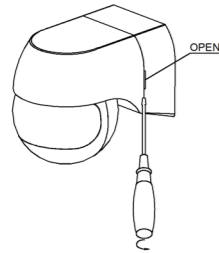

Figure 1
- Loosen the screw in the back and open the bottom (refer to figure 1).